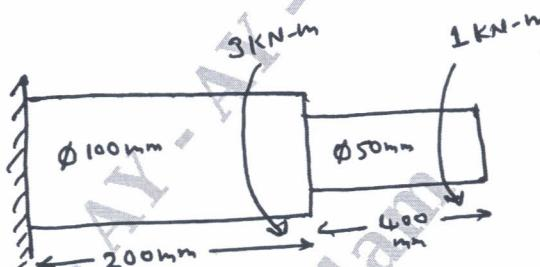

Fig Q6(b)
b. A solid stepped bar of circular C/S as in figure is subjected to torque as shown in Fig Q6(b). Determine angle of twist and shear stresses in bar $E = 2 \times 10^5 \text{N/mm}^2$, $G = 7 \times 10^4 \text{N/mm}^2$.